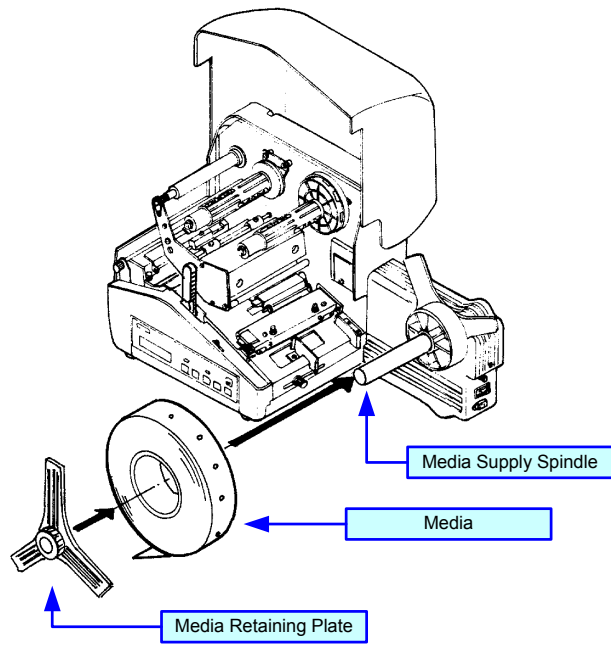

Figure 3-3b, Media Loading
- 3 Remove the media retaining plate from media supply spindle (**Figure 3-3b**).